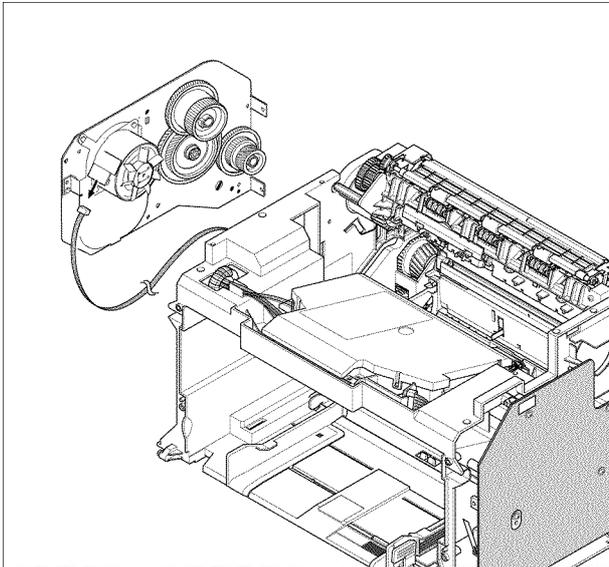

Figure 2
6. Disconnect the main motor harness, then remove the main drive assembly, Figure 2.